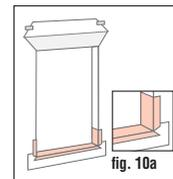

fig. 10
- Cut the second piece of weather barrier tape the thickness of the wall plus at least 1". Make the tape 18" longer than the width of the opening. Align flush with the interior of the wall and extend edge of the tape at least 1" past the exterior wall surface. **(fig. 10)**